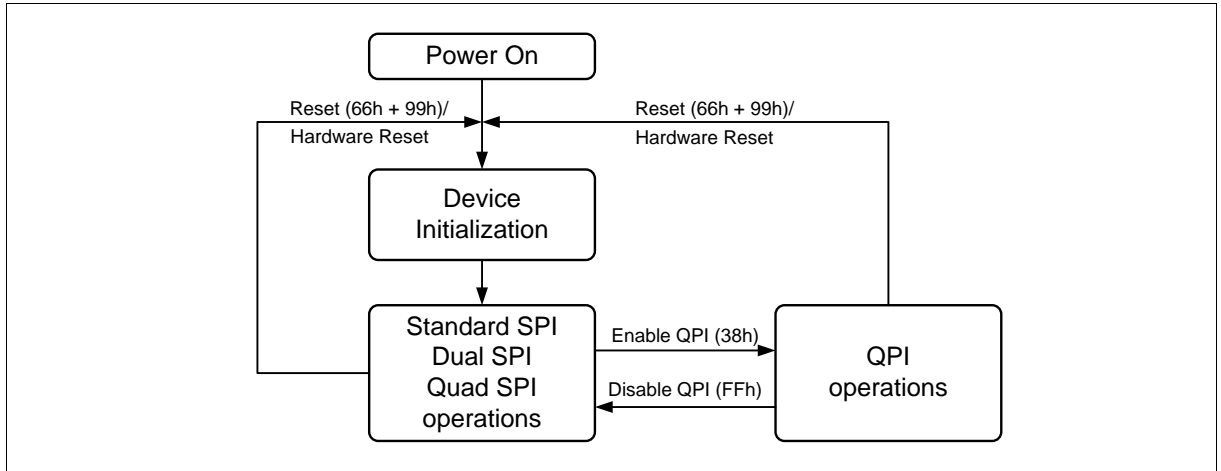

Figure 5 FM25Q128AI3 Serial Flash Memory Operation Diagram
The FM25Q128AI3 supports Quad Peripheral Interface (QPI) operations only when the device is switched from Standard/Dual/Quad SPI mode to QPI mode using the “Enable QPI (38h)” instruction. The typical SPI protocol requires that the byte-long instruction code being shifted into the device only via DI pin in eight serial clocks. The QPI mode utilizes all four DQ pins to input the instruction code, thus only two serial clocks are required. This can significantly reduce the SPI instruction overhead and improve system performance in an XIP environment. Standard/Dual/Quad SPI mode and QPI mode are exclusive. Only one mode can be active at any given time. “Enable QPI (38h)” and “Disable QPI (FFh)” instructions are used to switch between these two modes. Upon power-up or after a software reset using “Reset (99h)” instruction or hardware reset, the default state of the device is Standard/Dual/Quad SPI mode. To enable QPI mode, the non-volatile Quad Enable bit (QE) in Status Register-2 is required to be set. When using QPI instructions, the DI and DO pins become bidirectional DQ0 and DQ1, and the WP# and HOLD# pins become DQ2 and DQ3 respectively. See Figure 5 for the device operation modes.